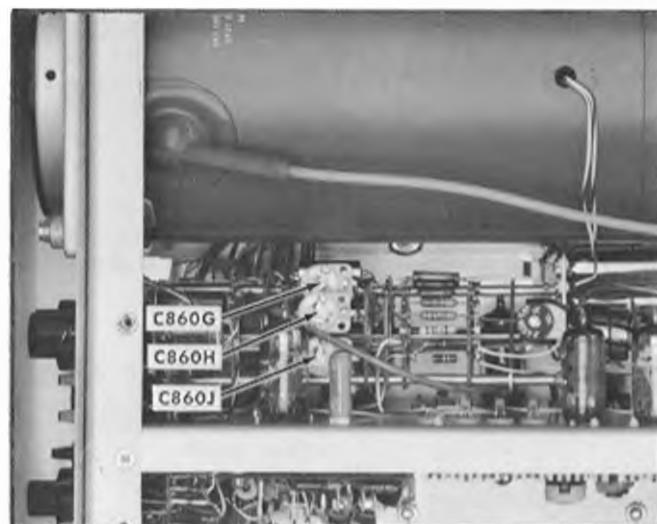

Fig. 6-49. Adjustment locations for B sweep timing, top view of Type 556.
- Adjust C860G (see Fig. 6-49) to obtain 1 marker/cm.
- Adjust C860H (see Fig. 6-49) to obtain 1 marker/cm.
- Adjust C860J (see Fig. 6-49) for one marker per 2 cm.